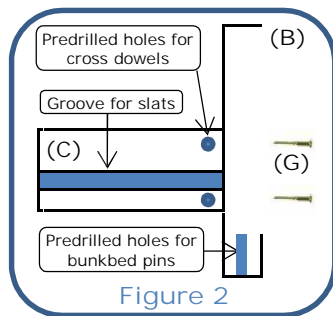
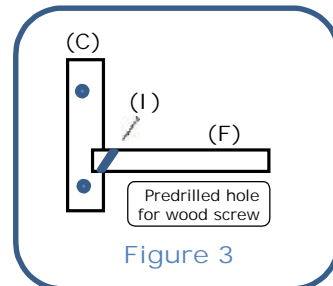

Figure 2
Figure 3
2. Assemble upper bunk bed using 1 combo rail (D) & 1 bed rail (C) with 2 upper bunk bed ends (B) and 8 connector bolts with 8 cross dowels. Refer to "Figure 2" for correct positioning. Before tightening connector bolts insert back guard rail (E).
3. Insert 4 bunkbed pins (J) into the predrilled holes of the lower bunk bed ends. Place upper bunk bed assembly onto lower bunk bed assembly ensuring bunk bed pins are captured by predrilled holes in bottom of upper bunk bed ends.
4. Slide 9 slats (F) into bed rail grooves. Position slats so gaps are no larger than 3-1/2". Secure each slat with 2 flat head wood screws (I) through predrilled holes at each end of the slat, refer to "Figure 3".